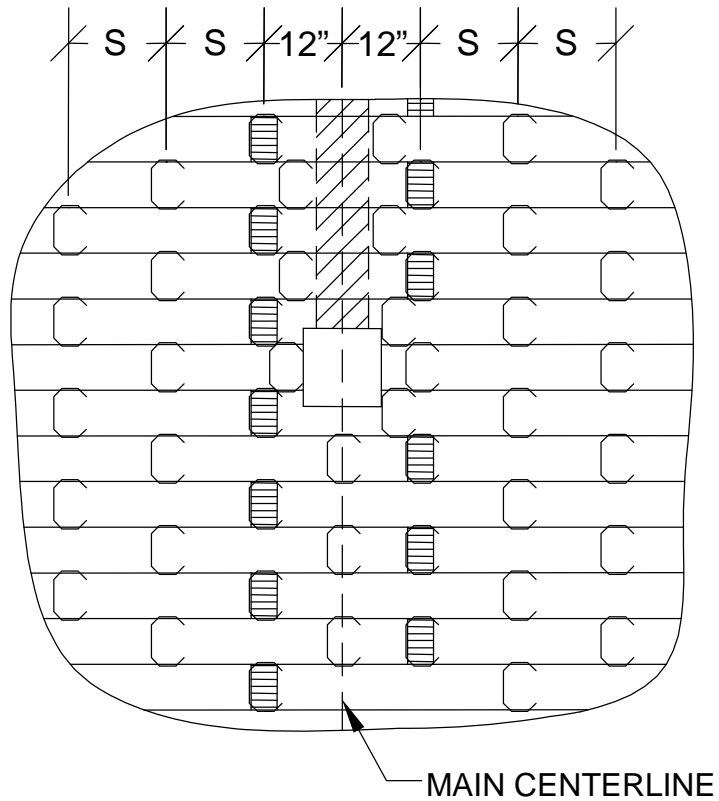

FIGURE 48.3: Support Orientation – 4808 to 4813
2. For bin models 4807 – 4813, the two chalklines on either side of the main centerline should be spaced at 12" from centerline to line up with floor plank splice locations. Mark all other chalklines at standard spacing "S" specified in table. See Fig. 48.3.
6. Where the clean-out auger prevents a column from being placed on the main centreline, two columns should be placed as close to each other as possible on either side of auger tube, but staggered from plank to plank as illustrated in Fig. 48.3.